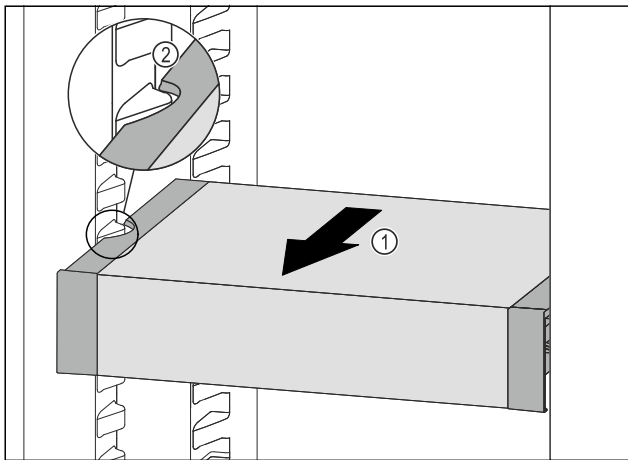

Fig. 176
- Pull VarioSafe forwards Fig. 176 (1) until the recesses in the side of the VarioSafe are at the level of the support rib in the fridge section. Fig. 176 (2)